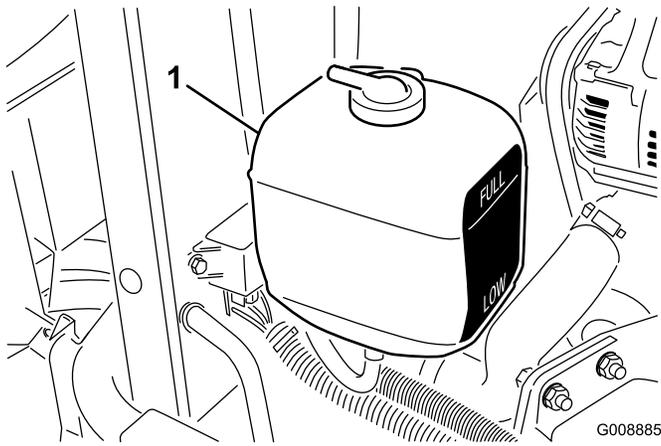

Figure 23
1. Check the coolant level in the expansion tank (Figure 23). With a cold engine, the coolant level should be approximately midway between the marks on the side of the tank.